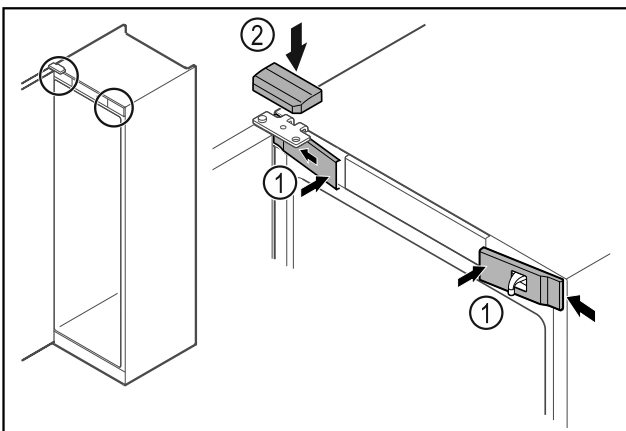

Fig. 61
- ▶ Hook in the front covers Fig. 61 (1) on the side and snap them into place.
- ▶ Snap on the top cover Fig. 61 (2) from above.